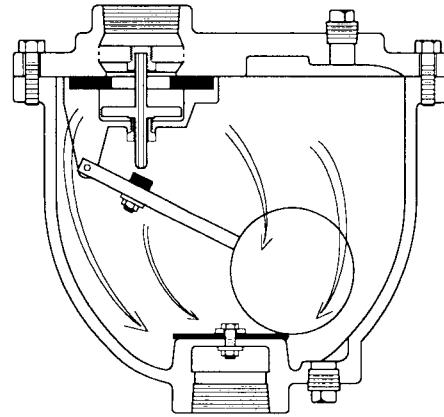

FIGURE 4. Air Enters During Pipeline Draining
3. When the system is drained, the plug will reopen allowing air to rapidly re-enter the piping system. See Figure 4.